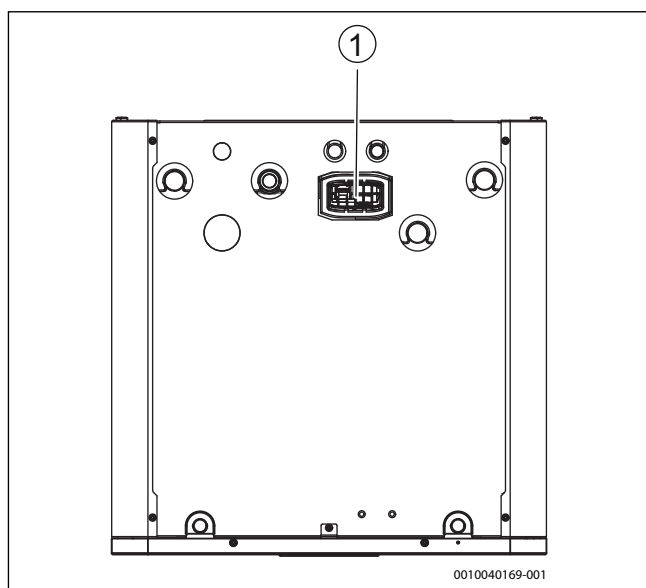

Fig. 18 Connect-Key K30RF placement
- ▶ Place the module in the holder (→ [1], figure 18). A LED will flash when properly inserted.